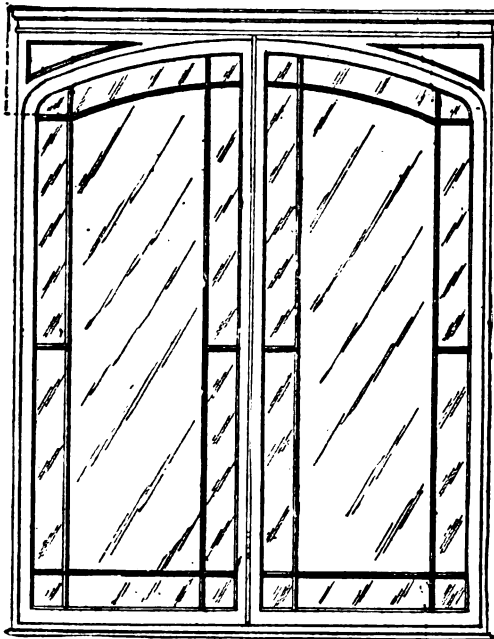

FIG. 1
**Elliptical-headed Bookcase.**—The illustration, Fig. 1, is an elevational view of the front of a bookcase with an elliptical or three-centre head; the doors are hung folding with a hook joint in the rebate. The hanging stiles have air-tight beads, the ends being solid and tongued to the frame, which is made of solid mahogany. The doors have marginal bars, and the top ones follow the line of the rails. The bars are made as shown in Figs. 2 and 3. Whichever method is adopted, either the moulding stuck on the solid, or the bolection moulding being planted on the frame, the construction will be the same, except that if the bolection